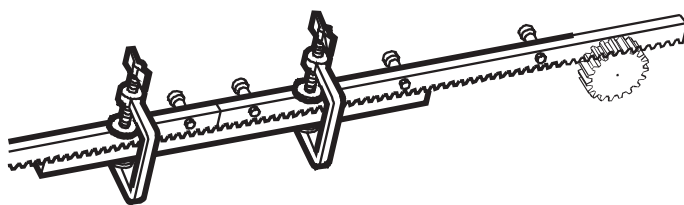

Figure 7
8. Align the teeth of all thesection elements using free rack (see figure 7).